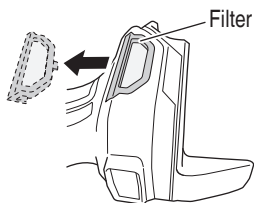

Fig. 20
- If the mesh is clogged and the debris or dust cannot be removed, detach the filter and clean it with an air blow gun, etc. (Fig. 20)